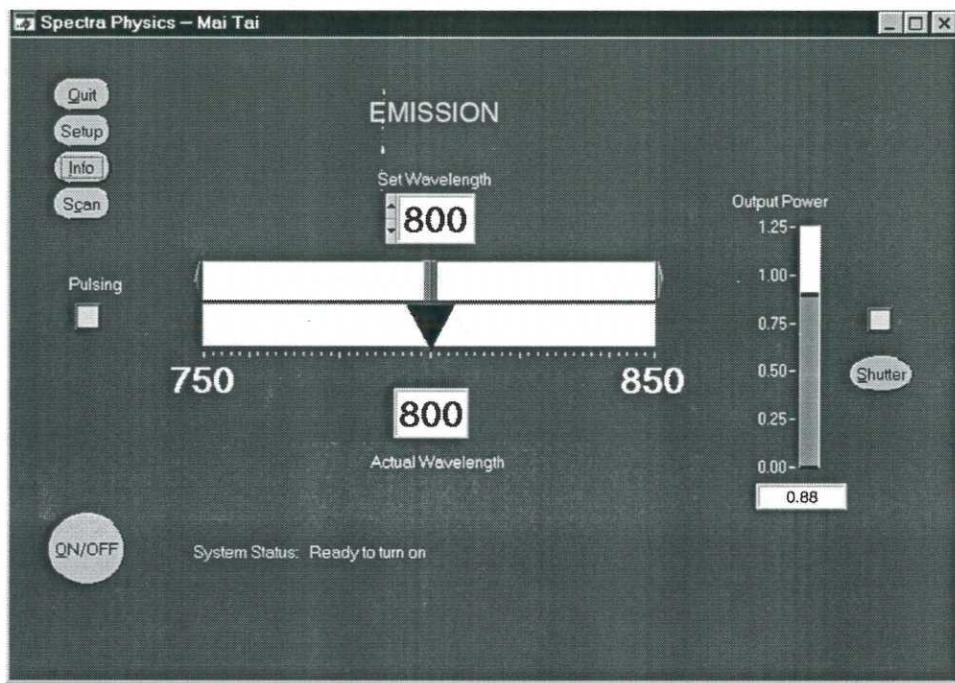

Figure 6-1: The Main Menu
The Main menu (Figure 6-1) is the first screen that appears when you start the software (after the Com Port Confirm menu). Large and easily seen from a distance, it serves as both monitor and input screen.
2. Verify the com port setting is correct for your system, then press OK. The system will look for the *Mai Tai* and, when found, will display the Main menu (Figure 6-1).